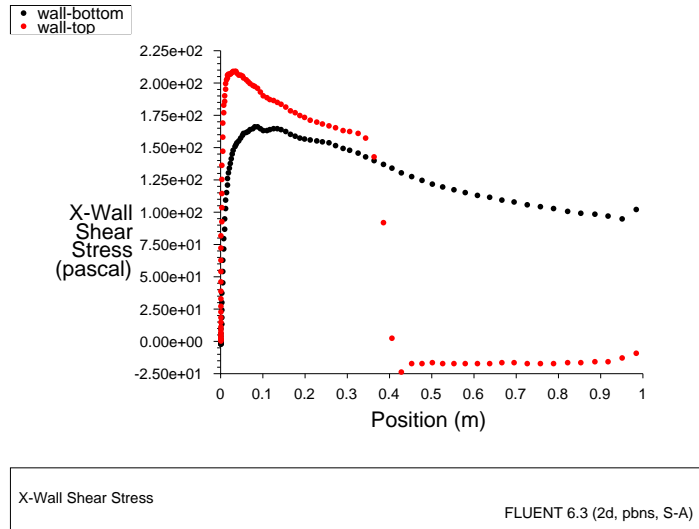

Figure 3.14: XY Plot of  $x$  Wall Shear Stress
4. Plot the  $x$  component of wall shear stress on the airfoil surface (Figure 3.14).
*As shown in Figure 3.14, the large, adverse pressure gradient induced by the shock causes the boundary layer to separate. The point of separation is where the wall shear stress vanishes. Flow reversal is indicated here by negative values of the  $x$  component of the wall shear stress.*